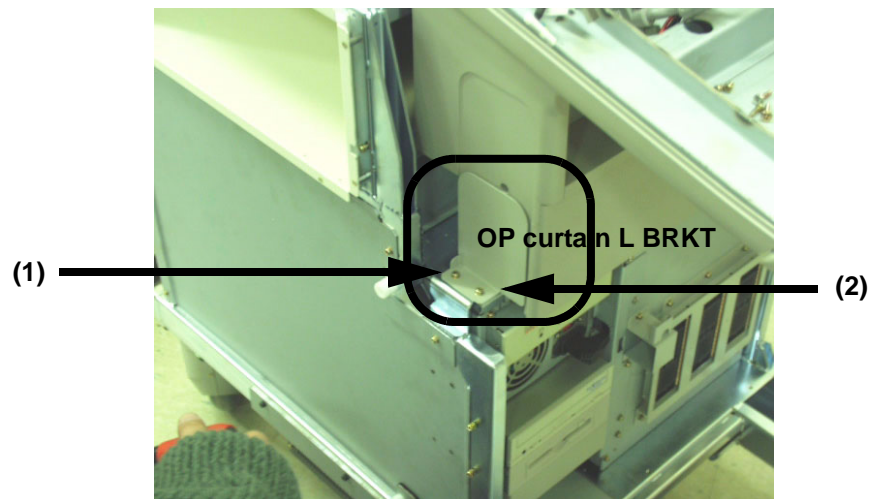

Figure 8-57 Removing OP Curtain L BRKT
- 6.) Unscrew two (2) screws (1-2) and remove OP Curtain L Bracket. Refer to Figure 8-57.